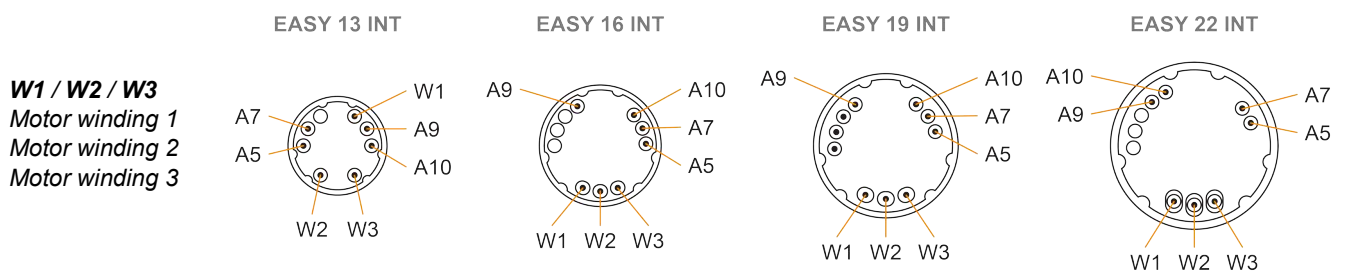

Figure 16 ENX 13 | 16 | 19 | 22 EASY INT Absolute – Pins
- Absolute encoder and motor with pins (→Figure 16)